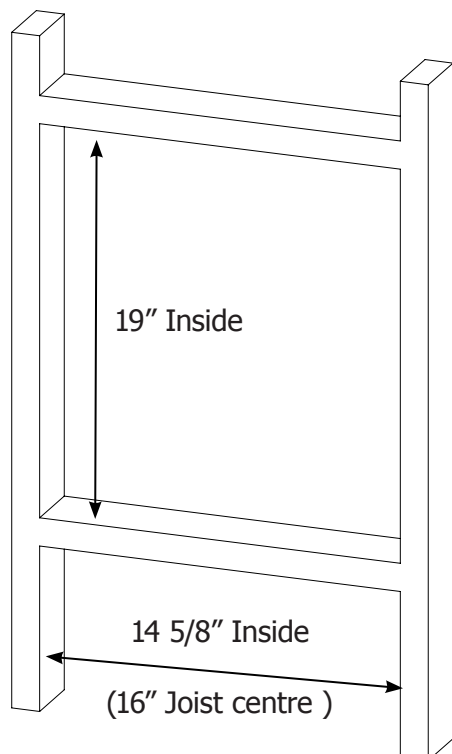

Figure 7: Power Vent Framing Dimensions
2. Cut and frame an opening that is 19" (483mm) tall by 14 5/8" (371mm) wide for the exterior thimble as shown in Figure 7.